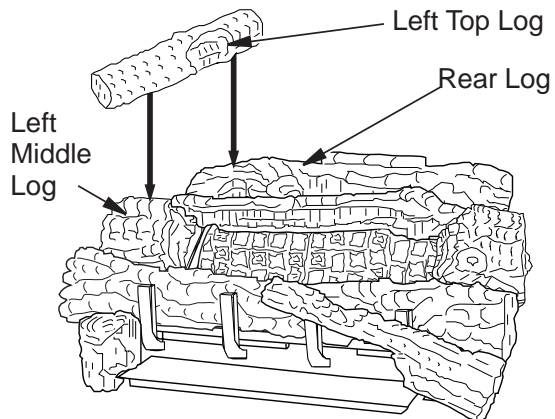

Figure 36 - Installing Left Top Log
10. Place the left top log (D-046) onto the rear log and the left middle log. Make sure to place the projection on the bottom of the left top log into the recessed areas on the rear and left middle logs (See **Figure 36**).